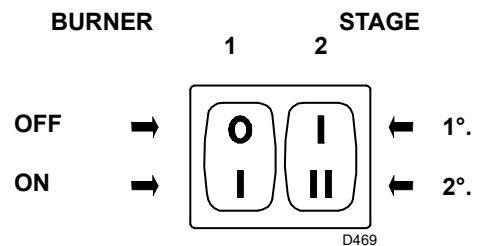
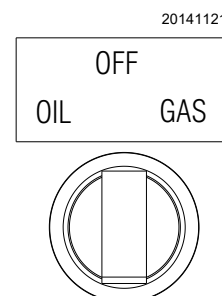

Fig. 33
Fig. 34
Keep the burner operating at 1st stage by setting the switch 2)(Fig. 33) to the 1st stage position. The fan damper can be adjusted by operating the orange level of the servomotor ("Servomotor adjustment" on page 33).
Turn switch 2)(Fig. 33) to the 2nd stage position. The fan damper can be adjusted by operating the red level of the servomotor, ("Servomotor adjustment" on page 33).
Start the burner by closing the remote controls, with the switch 1)(Fig. 33) in the "ON" position and with the fuel selector switch set to "OIL" (Fig. 34).
The pump can be considered to be primed when the light oil starts coming out of the screw 3)(Fig. 23 on page 24). Stop the burner: set switch 1)(Fig. 33) to "OFF" and tighten the screw 3).
- switch 1)(Fig. 33 on page 30) in "**BURNER ON**" position;
- switch 2)(Fig. 33 on page 30) in "**1st STAGE**" position;
Turn switch 2)(Fig. 33 on page 30) to the 2nd stage position: the servomotor will open the air damper on the value previously set for the light oil and will control the opening of the 2nd stage VR2 gas valve.
Turn switch 2)(Fig. 33 on page 30) to the 1st stage position: the servomotor will close the air damper on the value previously set for the light oil and will control the opening of the 1st stage VR1 gas valve.